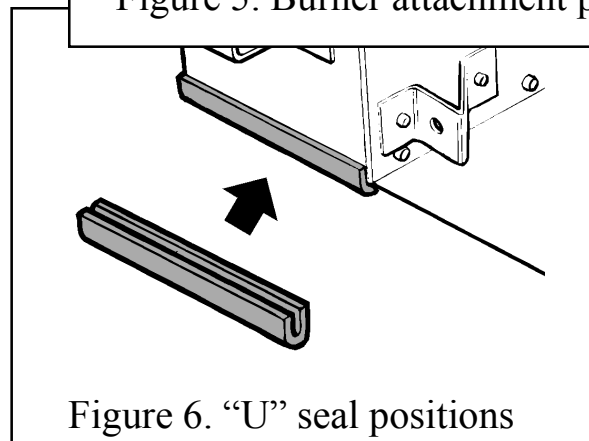

Figure 6. "U" seal positions
4. Fit the two small "U" section seals to the bottom edges of the convection box side flanges. See figure 6.